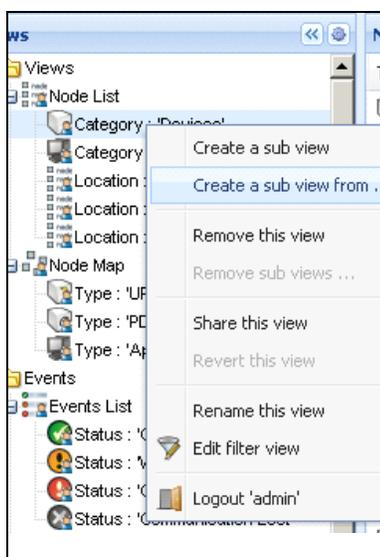

Figure 60. Contextual Sub-view Menu
2. Right-click this selection. The contextual sub-view menu displays (see Figure 60).
2. Right-click this selection. The contextual menu sub-views displays (see Figure 60).